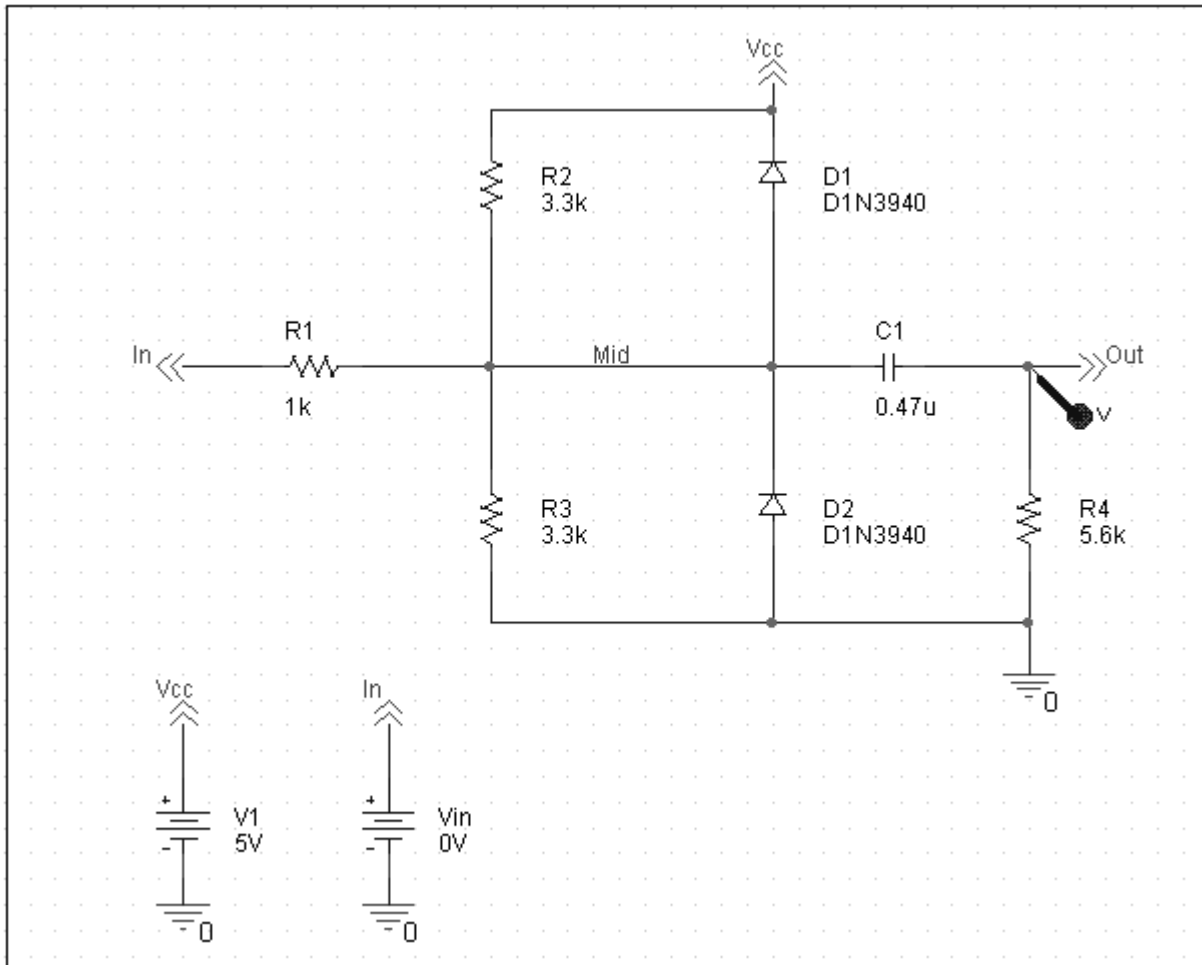

Figure 2-9 Clipper circuit with voltage marker on net Out.
2. Click to place a marker on net Out, as shown in Figure 2-9.